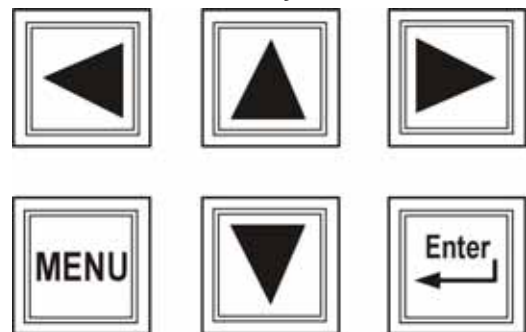

Figure 3-12
3. Press the <MENU> key on the CCU for accessing password menu. [See Figure 3-12.]